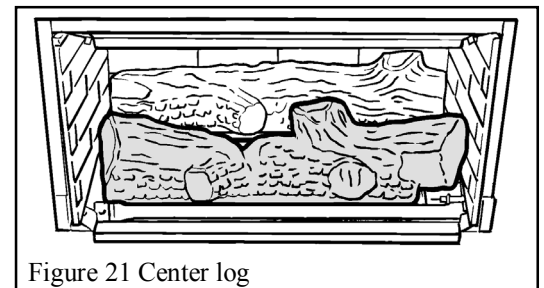

Figure 21 Center log
4. Place the center log in the retaining cradle between the rear and front burner rails. See figure 21.